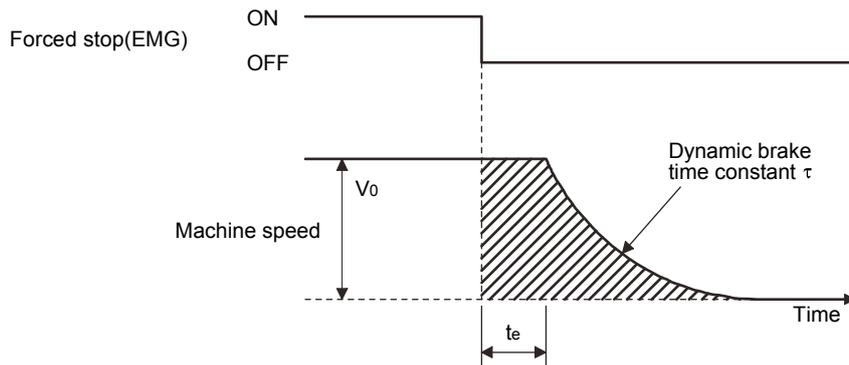

Fig. 13.3 Dynamic brake operation diagram
Fig.13.3 shows the pattern in which the servo motor comes to a stop when the dynamic brake is operated. Use equation (13.2) to calculate an approximate coasting distance to a stop. The dynamic brake time constant  $\tau$  varies with the servo motor and machine operation speeds. (Refer to (2) (a), (b) in this section.)